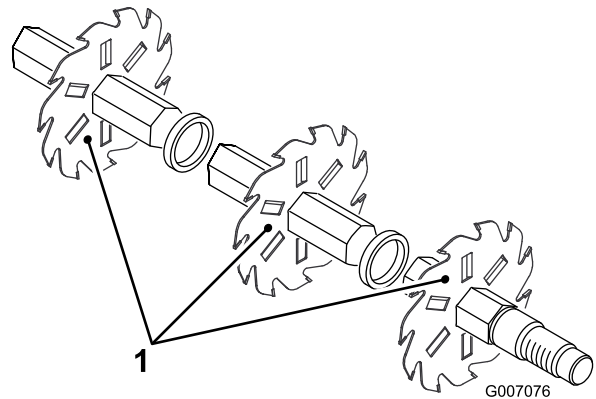

Figure 15
4. Install the next blade counter-clockwise so the index reference hole is not aligned with the first blade hole by one hex of the shaft (Figure 15). Continue to install spacers and blades in this manner until the full complement of blades have been installed. When properly assembled, the blades will be centered on the shaft and staggered in such a manner to give a helix appearance.